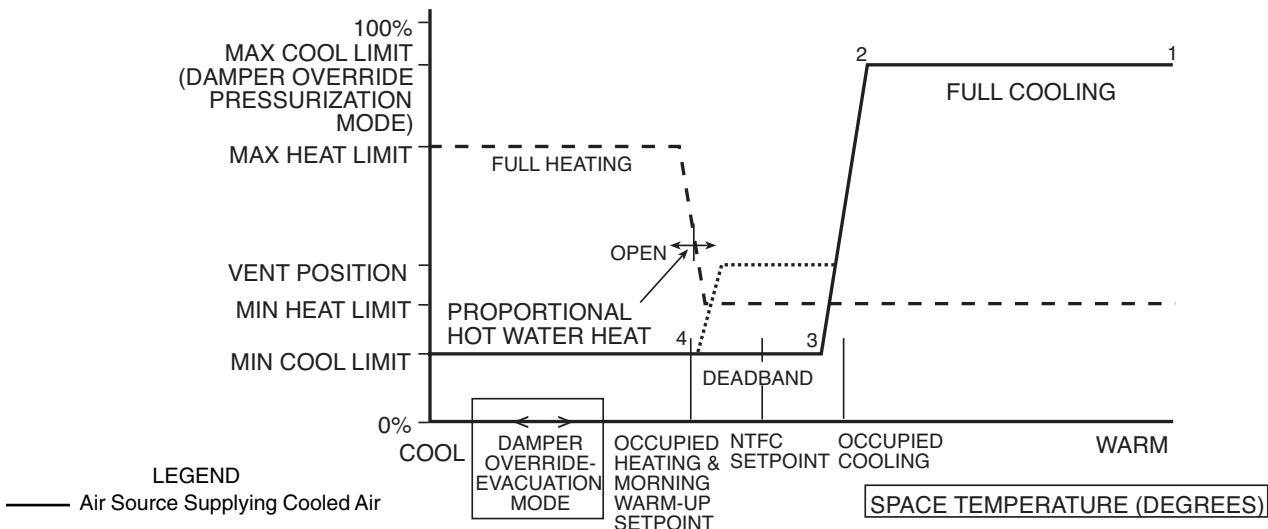

Figure 1 - Sequence of Operation for VVT, Cooling with Two-Position Hot Water Heat
- A. Cooling: When the primary air source is providing cooling (as detected by the primary air sensor), refer to numbers on flow diagram. See Fig. 1.